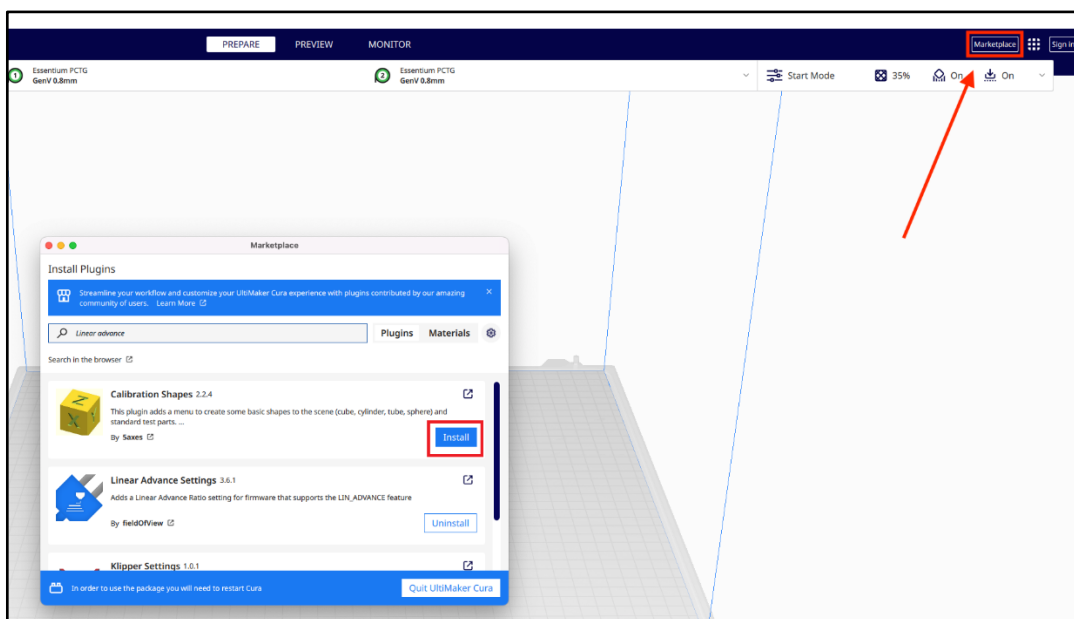

Figure 11: Adding Marketplace Plugins
17. Select 'Marketplace' at the top-right of the screen, and then search for each plugin name, and then click 'Install' (See Figure 11).